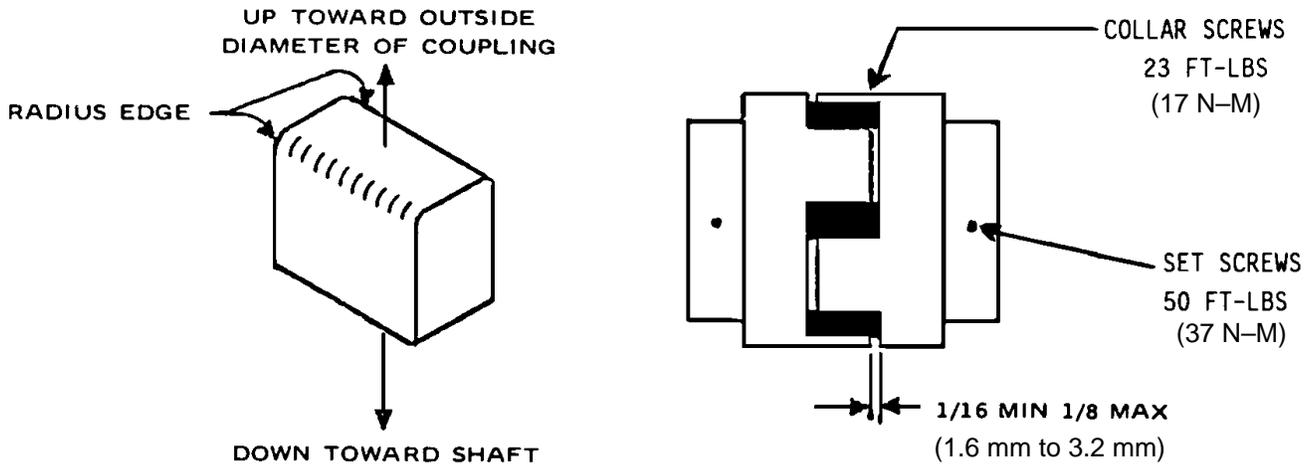

FIGURE 7-1 – INSTALLATION OF COUPLING CUSHIONS
- Working through the coupling guard opening, center the coupling over the gap between the shafts, maintaining the gap as shown in FIGURE 7-1 between the ends of the jaws on one coupling body and the flange on the opposite coupling body. Tighten set screws in each coupling body.
- Insert individual cushions as shown in FIGURE 7-1 and slide the collar over the cushions and secure with cap screws. Reinstall the cover plate.
COUPLING – The motor and compressor are direct connected by a resilient type flexible coupling with several individual cushions, FIGURE 7-1. The coupling does not require lubrication.
Individual Cushion Design (FIGURE 7-1)